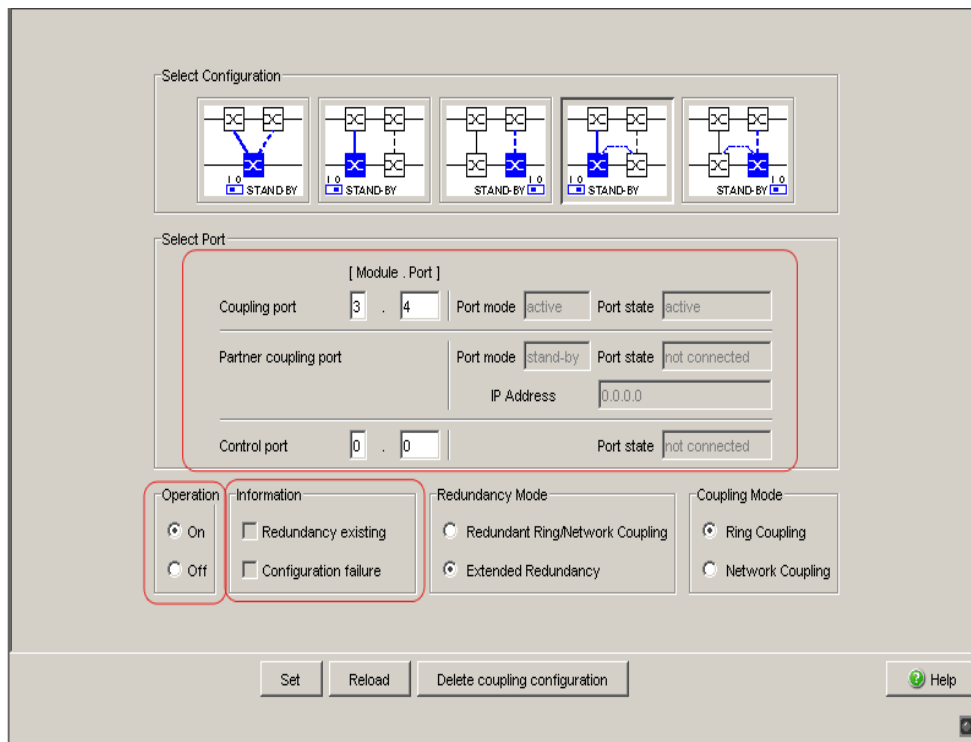

Figure 35: Selecting the port and enabling/disabling operation
- Select the coupling port (see fig. 35), (see table 13).
- Select the control port (see fig. 35), (see table 13).
The displays in the "Select port" frame mean (see fig. 35):